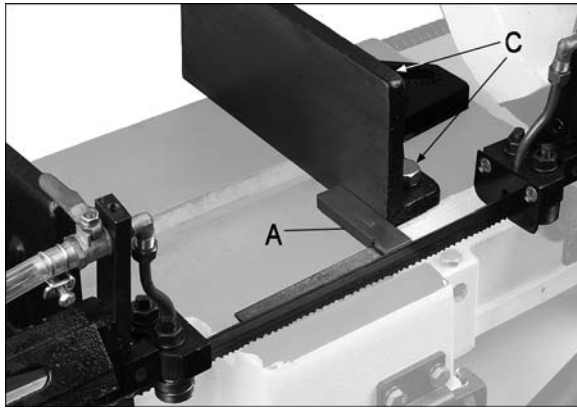

Figure 14
2. Place a machinist's square (A, Figure 14) on the bed against the blade and the fixed vise jaw. The square should lie along entire length of jaw and blade without a gap.
3. If adjustment is necessary, loosen screws holding vise (C, Figure 14) and shift vise until it aligns with square.